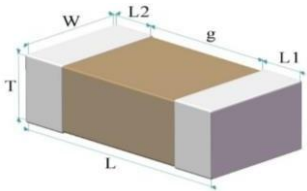

Fig.1: Structure & Dimension
| 2   | Size Code                                 | See Fig.1 and ② Size Code                           | Measuring by gages which precision is not less than 0.01 mm.                                                                                                                                                                                                                                                                                                                                                                   |